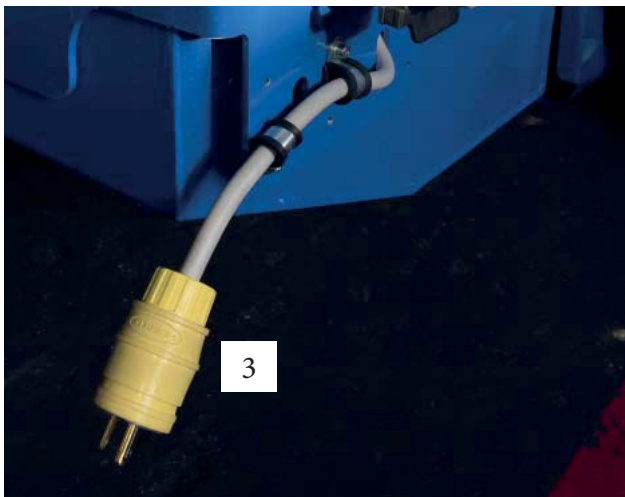

fig 3.4a
- connect the electric plug of fig. 3.4a to the grid.